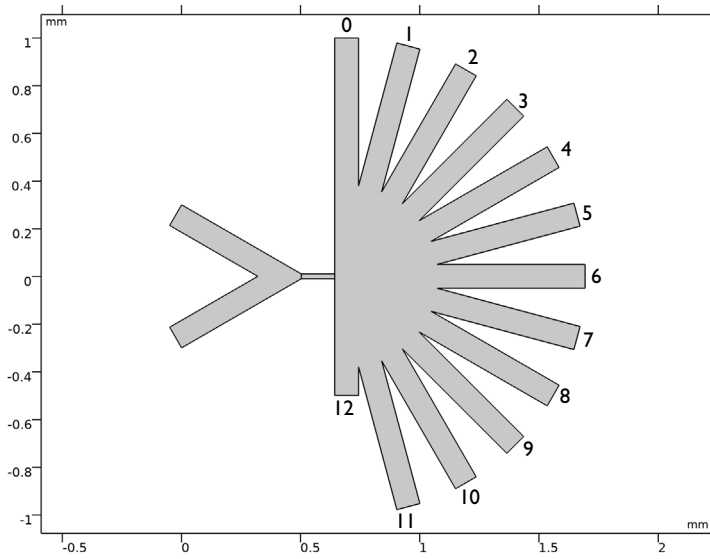
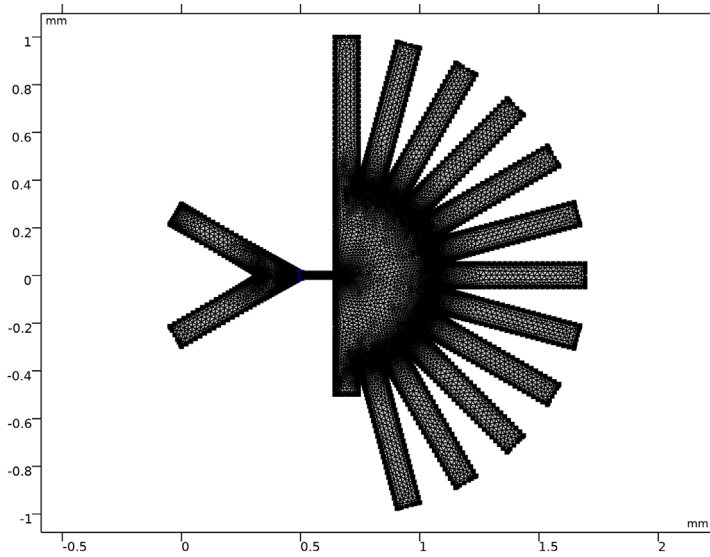

Figure 1: Model geometry of asymmetric pinched flow fractionation device. Fluid enters through two inlets on the left and exits through the 13 numbered outlets.
Figure 2: The mesh is refined around the entrance of microchannel and near corners.
The sample used here is water containing spherical particles of density 1300 kg/m^3 , with diameters uniformly distributed between $1.5 \text{ }\mu\text{m}$ and $11 \text{ }\mu\text{m}$. The inlet in the upper left corner of Figure 1 delivers the sample at the rate of $25 \text{ }\mu\text{l/hr}$. The inlet in the lower left corner delivers pure water at the rate of $1200 \text{ }\mu\text{l/hr}$. The outlet branches are numbered from 0 to 12 in a clockwise direction, with 12 being the drain in Figure 1. The microchannel should be meshed at higher resolution relative to the rest of the geometry. When the particle enters the microchannel there is sudden change in the velocity, thus the entrance is manually meshed to finer sizes as shown in Figure 2.
- 3 In the **Geometry** toolbar, click  **Build All**. The geometry should look like Figure 1.